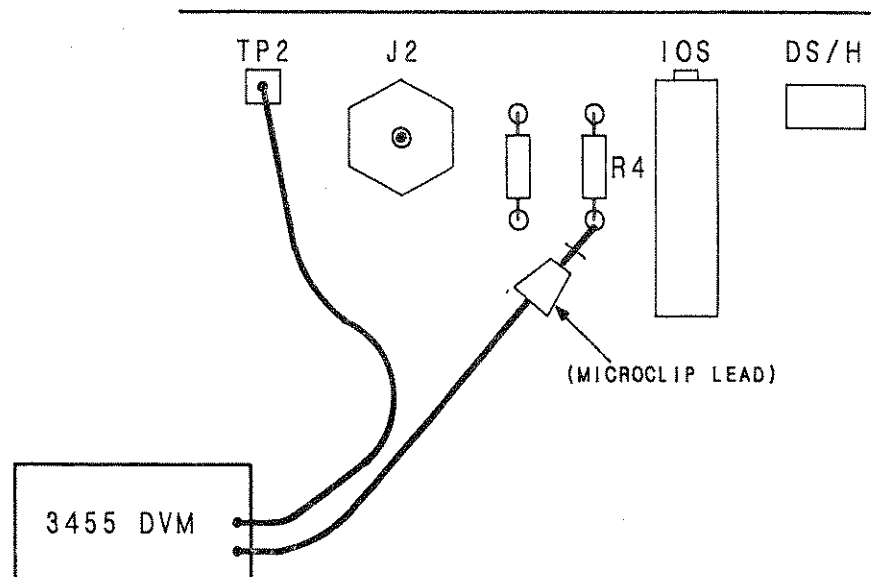

Figure 5-2. Voltmeter Connection
11. Connect the voltmeter between A10TP2 and A10R4 (51.1 ohms) as shown in Figure 5-2.